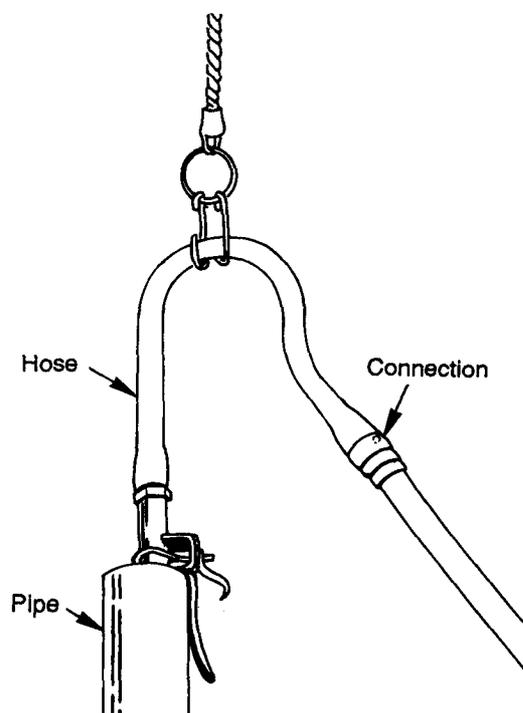

Figure 9-1. Small-diameter jetting-pipe connection
(1) Swivel. The water swivel must be able to carry the weight of the drill pipe and must sustain the maximum pressure delivered by the pump. Figure 9-1 shows a connection that you may use at the top of small-diameter jetting pipes in place of a swivel.
(2) Drive Weight. This is weight you drop on the pipe to help penetrate clayey or semifirm soil.
(3) Jetting Fluid. Water is commonly used in jetting, but a fluid with greater viscosity and weight may be prepared with clay or commercial bentonite. However, a heavier fluid tends to seal the borehole wall, preventing water penetration. In the jetting process, fluid is led from the borehole to a pit where cuttings settle to the bottom. The jetting pump then recirculates this fluid. Under certain conditions in the Arctic, steam is used to construct jetted wells.